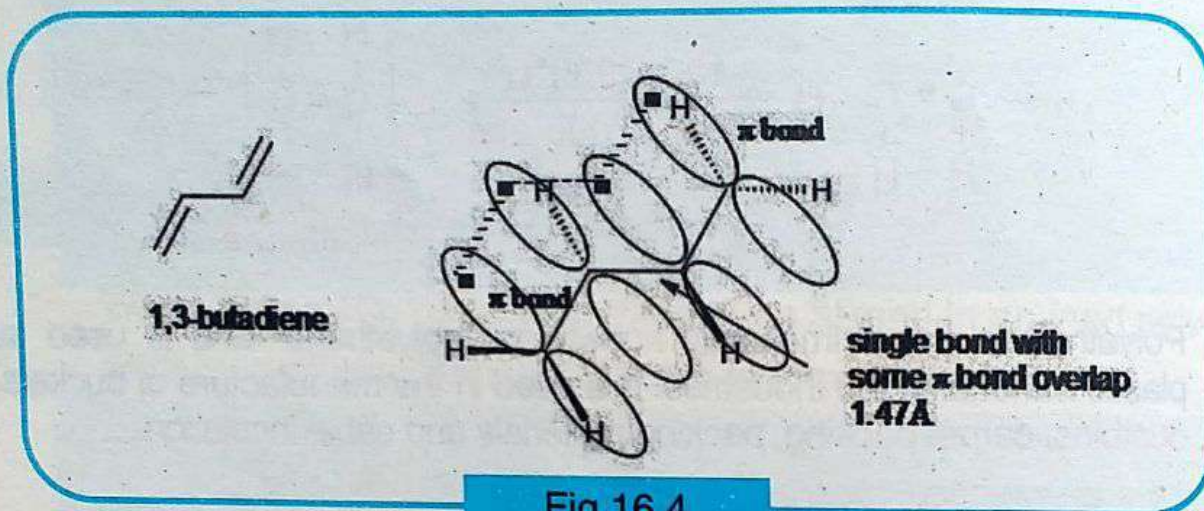

Fig 16.4
Each of the four carbon atom also possess an unhybridized p-orbital, which are perpendicular to the plane of σ -bonds. The p-orbitals of the second and third carbon atoms can overlap on either side. Thus all four p-orbitals overlap to form a large π molecular orbital (MO) (Fig 16.4). Each pair of π electrons is thus attracted not by two, but all four carbons. We can say that the π electrons are delocalized. The delocalization of π electrons is responsible for greater stability of 1,3-butadiene. The C-C single bonds in 1,3-butadiene are shorter (1.48 \AA) than the normal